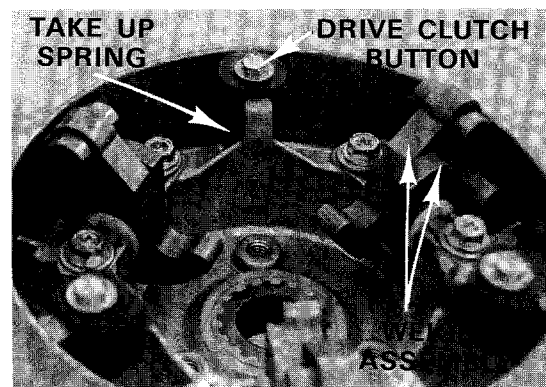

Figure 9-15
12. Install three drive button take-up springs (12) on the ribs of the cover. The spring must be installed on the counter clockwise side of the rib when looking at the rib (Figure 9-15).